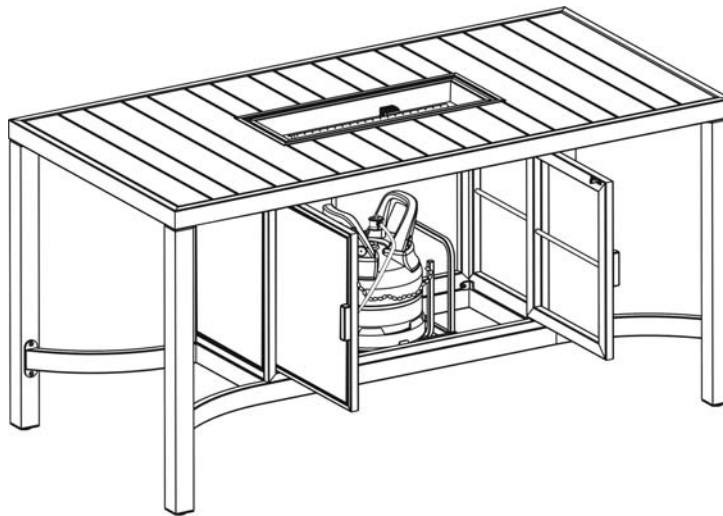

Figure 11
11. Pull the handle to release the door and place the LP tank (not provided) in the drawer and secure it with the chain as shown in Figure 11. With the BLACK lever in the “down/off” position as shown in Figure 12, firmly push the regulator onto the tank valve. To open the valve, lift the BLACK lever and turn the handle 90° clockwise to the “ON” position. See Figure 13. Apply a solution of soapy water to the tank-regulator connection and to the valve-hose connection to check for leaks. If soap bubbles continue to form, the connection has a leak. If a leak is found, close the tank valve and tighten all connections. **NEVER USE A FLAME TO CHECK FOR LEAKS.** In case of gas leakage; for instance, in the event of gas leakage, the appliance shall not be used or if alight, the gas supply shall be shut off and the appliance shall be investigated and rectified before it is used again. To remove the regulator, turn the Black Lever counterclockwise and press straight in. See Figure 14.